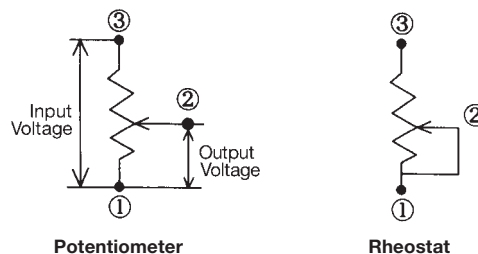

Figure 3
4. Trimmer Applications. Normally, as shown in *Figure 3*, a trimmer may be used in a circuit as a potentiometer (three-terminal voltage divider) or as a rheostat (two-terminal variable resistor where all the current passes through the wiper). Wiper current, therefore, is especially important in rheostat applications. The potentiometer circuit